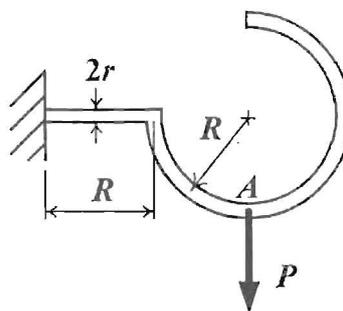

Fig. P5
5. Consider the hook as shown in Fig. P5 subjected to a load P at point A. The hook has a circular cross-section of radius r , $r \ll R$. Young's modulus of the hook is E . Determine the vertical and horizontal displacements of point A by using Castigliano's theorem (alternative solution approach is not allowed). (20%)